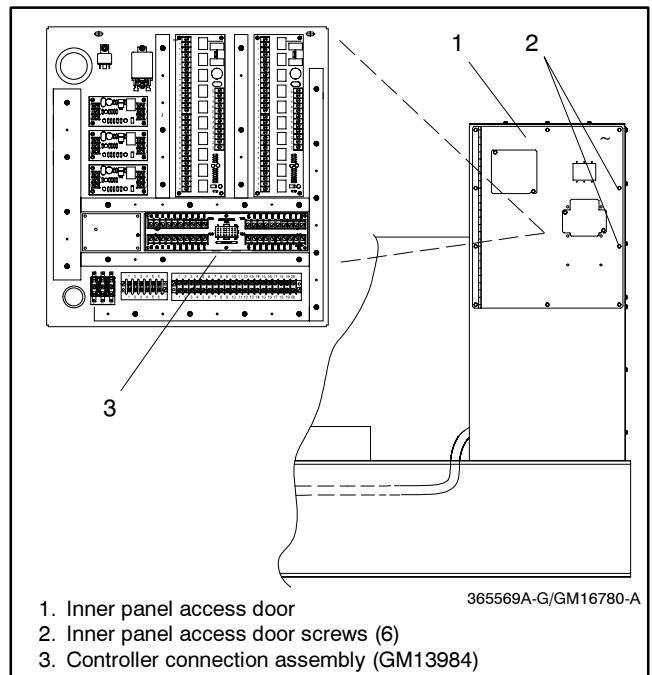

Figure 4 Terminal Block Bracket Mounting in Junction Box (450-2000 kW)
- 2.3.3 Attach the controller connection assembly (GM13984) to the junction box inner panel studs using six spacers (X-712-9) and nuts (X-70-12). Place the spacers between the controller connection assembly and the mounting bracket. See Figure 4 for the mounting location.